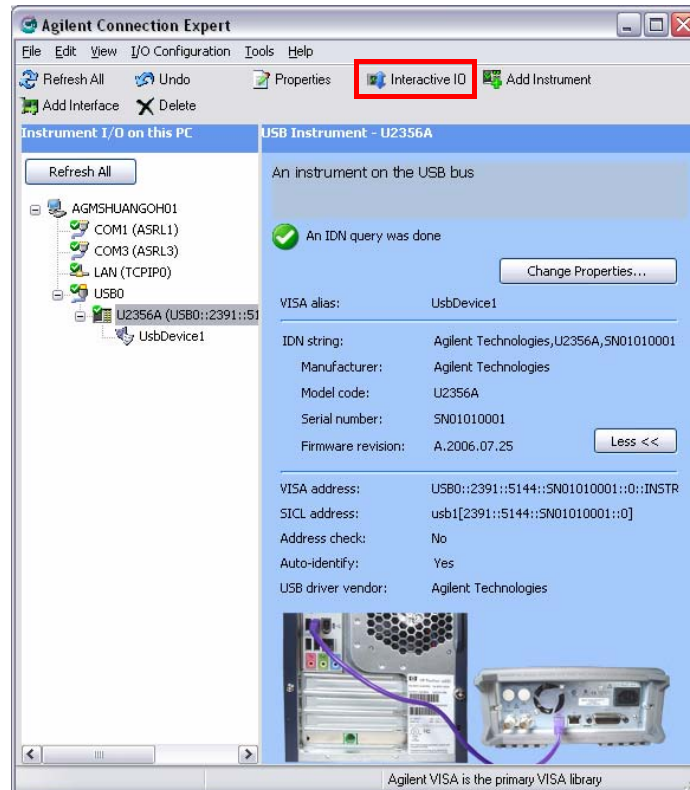

Figure 2-7
- 4 To send a command to the connected instrument, click **Interactive IO** from the tools panel as highlighted in Figure 2-7.